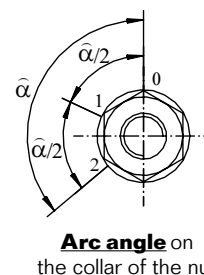

Fig. 1
Plate packs have to be bolted to the coupling part, so that rings (item 1 - figure 1) are adjacent to ARPEX flange (item 2). The bolts must be used in the as-delivered condition, **additional lubrication or greasing of the bolts is not allowed!**
- Mark a clearly visible zero position at any point on the collar of the nut as well as on the flange (fig. 1). It is recommended to choose a corner of the hexagon as zero position.
- Starting from the zero position mark the turning angle $\alpha/2$ and α [deg] respectively $\hat{\alpha}/2$ and $\hat{\alpha}$ [arc angle] - see table 6.6 on page 29 - in a counter-clockwise direction on the collar of the nut (fig. 1).